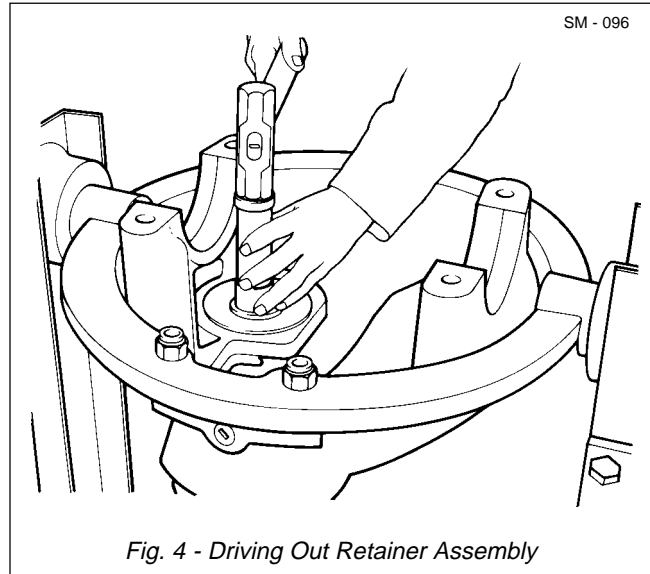

Fig. 4 - Driving Out Retainer Assembly
1. Remove bolts (2), plate (3) and shims (4), if used; pull yoke assembly (5) from pinion gear (15) shaft with care so as not to damage or distort the yoke flange.
2. Unscrew bolts (10) attaching retainer (9) and shims (11) to carrier housing (19).
3. Remove 'O' ring (7) from groove in yoke (5) and discard.
4. Remove set screws (8) and screw in two 1/2"-13 UNC bolts in the tapped holes of the retainer flange (9) using these bolts as pullers to remove retainer assembly.
Note: If the above retainer assembly removal procedure is not feasible, the following method may be used: Invert carrier housing (19), as shown in Fig. 4, then drive retainer out of the housing. During this operation, be careful not to obliterate the etched dimension on the bottom of pinion gear (15) shaft.
5. Separate retainer (9), cup (13) and oil seal (12) from carrier housing (19), then remove shims (11). Wire shims together to aid in assembly.
6. Using a soft-jawed vice with the jaws opened slightly wider than retainer (9) bore, place retainer (9) on top of the bars, with the flange facing downward. Tap out cup (13) and oil seal (12) with a soft-faced hammer. Be careful not to damage the inside machined surface of the retainer when removing the cup.